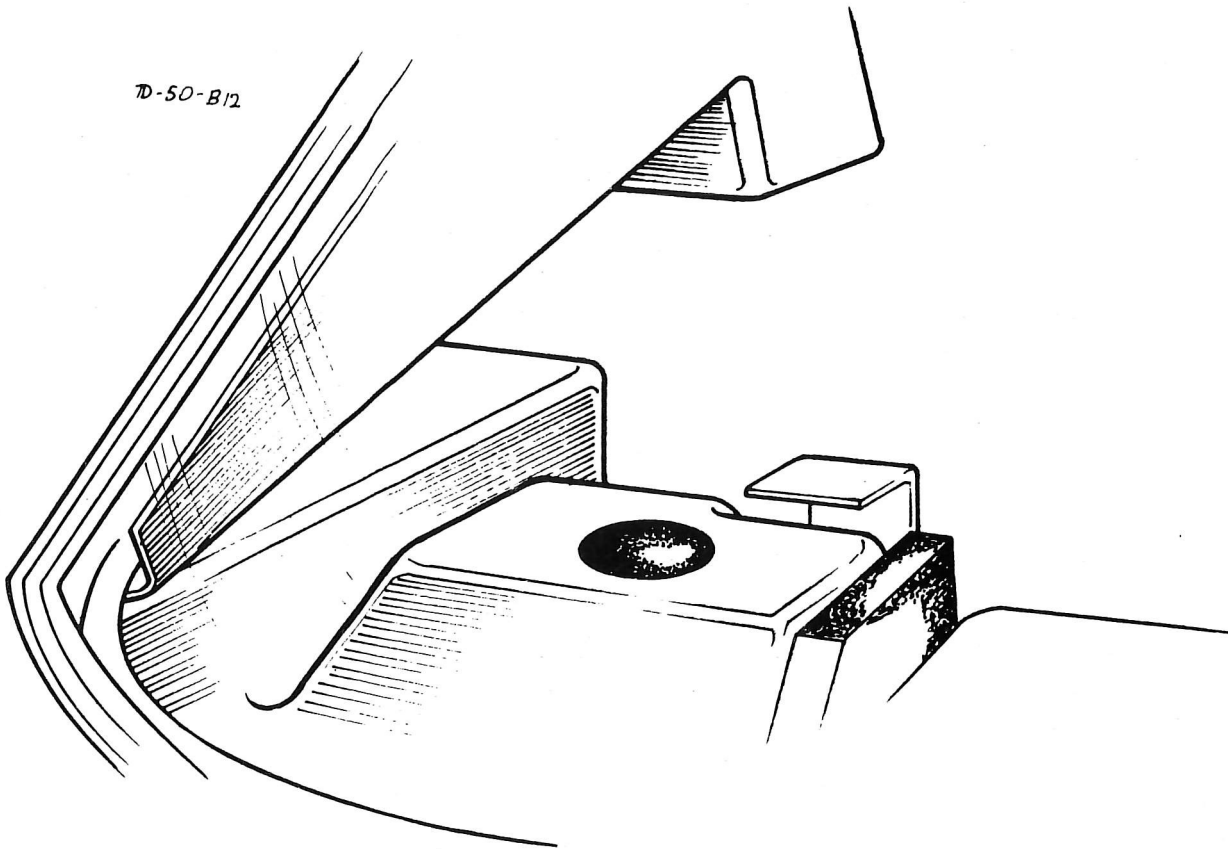

Fig. 20. TROUGH SHOWN THROUGH REAR SCREEN
12. Place the two support blocks in position at the base of the screen (see Fig. 20) using pieces of narrow butyl strip to locate them